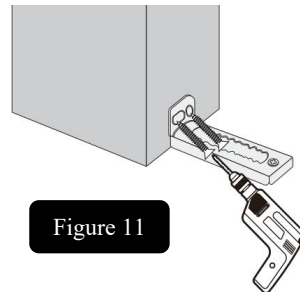

Figure 10
- **Step 2:** Predrill the marked places using 1/8" drill bit (Figure 10).